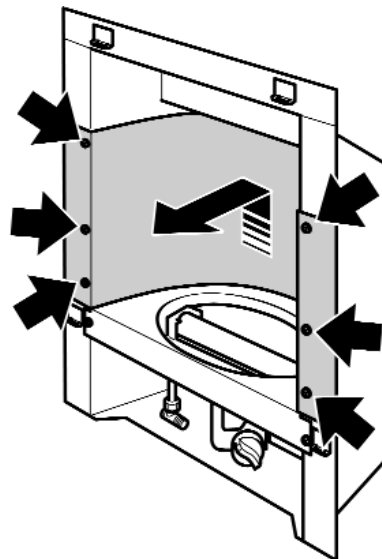

Figure 46. Removal of inner reflector
4. Remove the six screws from the side of the inner reflector (See figure 46).